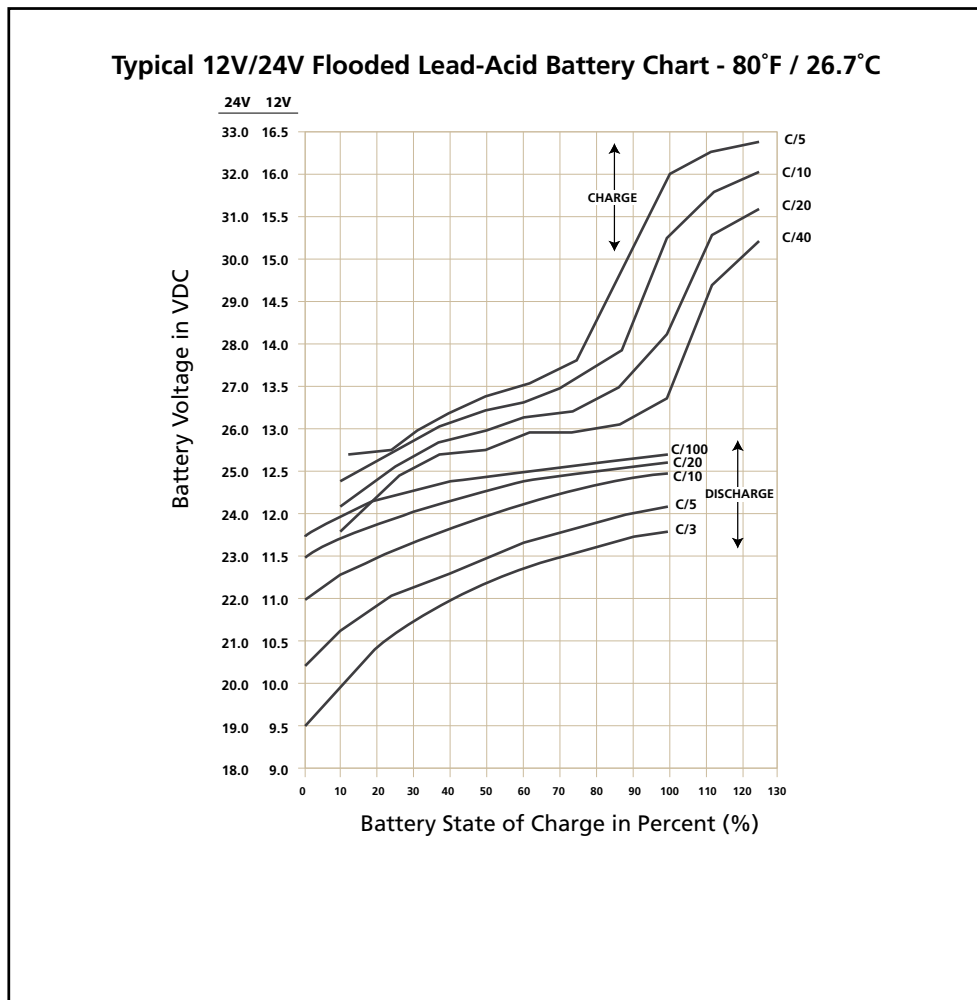

Fig 1.4.1 Charging / Discharging Curves for Typical 12V/24V Flooded Lead Acid Battery
1.4.11.1 Fig 1.4.1 shows examples of State of Charge / Discharge Curves for different C-rates for typical 12V / 24V Lead Acid Battery at 80°F / 26.7°C. These curves are used to determine the State of Charge / Discharge of the battery based on its terminal voltage.
1.4.11.2 **Example of Determining State of Charge (using Fig 1.4.1) when Charging 12V, 100Ah Battery at C-rate of 0.1C or C/10 or 10A:** Refer to Charge Curve marked C\10 of the upper 4 curves marked "CHARGE". States of Charge at different battery terminal voltages will be: (a) At 15.3V = 100% charged; (b) At 14.3V = 90% charged; (c) At 13.5V = 70% charged; (d) At 12.5V = 15% charged
1.4.11.3 **Example of Determining State of Discharge (using Fig 1.4.1) when Discharging 12V, 100Ah Battery at C-rate of 0.33C or C/3 or 33.3A:** Refer to Charge Curve marked C\3 of the lower 4 curves marked "DISCHARGE". States of Discharge at different battery terminal voltages will be: [a] At 9.5V = 100% discharged (0% charged); [b] At 10.4V = 80% discharged (20% charged); [c] At 11.5V = 28% discharged (72% charged) and [d] 11.75V = 0% discharged (100% charged)
The discharge curves in Fig. 1.4.1 show the % State of Charge versus the terminal voltage of typical Flooded Lead Acid Battery under different charge /discharge currents, i.e. “C-rates” and fixed temperature of 80°F. *(Please note that the X-Axis of the curves shows the % of State of Charge. The % of State of Discharge will be 100% - % State of Charge).*
As stated earlier at Section 1.4.14, the buzzer alarm is triggered when the voltage at the DC input terminals of the inverter has dropped to around 10.5V for a 12V battery or 21V for 24V battery at C-rate discharge current of C/5 Amps. Please note that the terminal voltage relative to a particular State of Discharge decreases with the rise in the value of the discharge current. For example, terminal voltages for a State of Discharge of 80% (State of Charge of 20%) for various discharge currents will be as given at Table 1.4.5 (Refer to Fig. 1.4.1 for parameters and values shown in Table 1.4.5):
Inverters are normally provided with a protection to shut down the output of the inverter if the DC voltage at the input terminals of the inverter drops below a threshold of around 10V for a 12V battery or, 20V for 24V battery. Referring to the Discharge Curves given in Fig 1.4.1, the State of Discharge for various C-rate discharge currents for battery voltage of 10V / 20V is as follows: *(Please note that the X-Axis of the curves shows the % of State of Charge. The % of State of Discharge will be 100% - % State of Charge):*